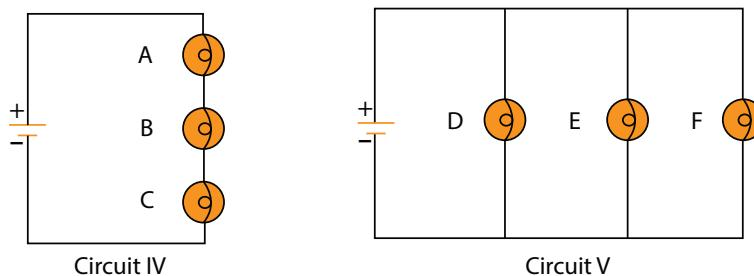

Figure 2.4.2: Circuits IV and V of the experiment.
9. Add one more bulb to each of the above circuits creating Circuits IV and V as shown in Figure 2.4.2 , using a 12V supply.